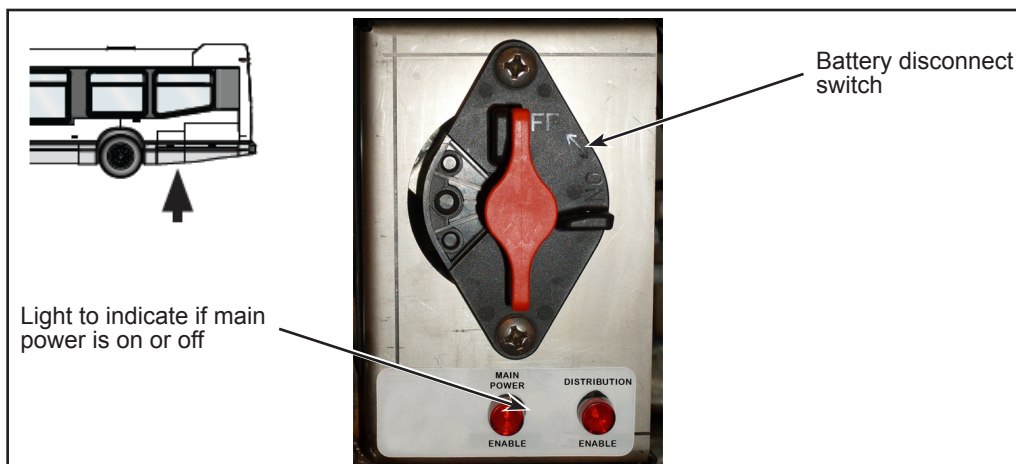

Figure 2 - Battery disconnection switch position
- 1.4. Set the battery disconnect switch in the battery compartment to the OFF position (see Figure 2).
No attempt shall be made to perform the installation unless Nova Bus maintenance manual and all referenced supporting documents have been read and understood. See Figure 2, for schematic of CNG system.